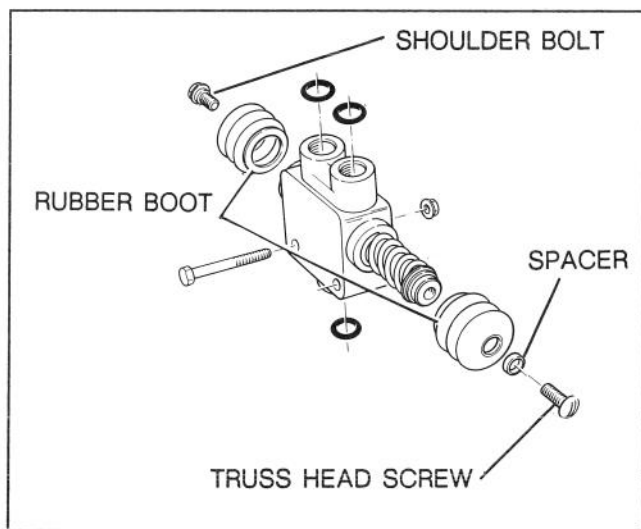

Figure 2
1. Install a rubber boot over output end of valve spool and onto edge of valve boss. Thread shoulder bolt into end of spool (Fig.2).
2. Install a rubber boot over input end of valve spool (Fig.2). Stretch boot so it fits over casting flange.
3. Insert a spacer into boot opening, on input end of valve spool (Fig.2).
4. Thread a Truss Head Screw into input end of spool (Fig.2).
5. Coat (3) new o-ring seals with oil and install in new valve.
7. Mount valve to frame using (2) capscrews and flange locknuts (Fig. 2).